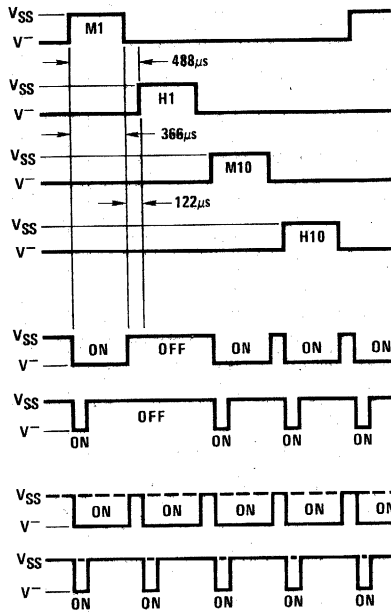
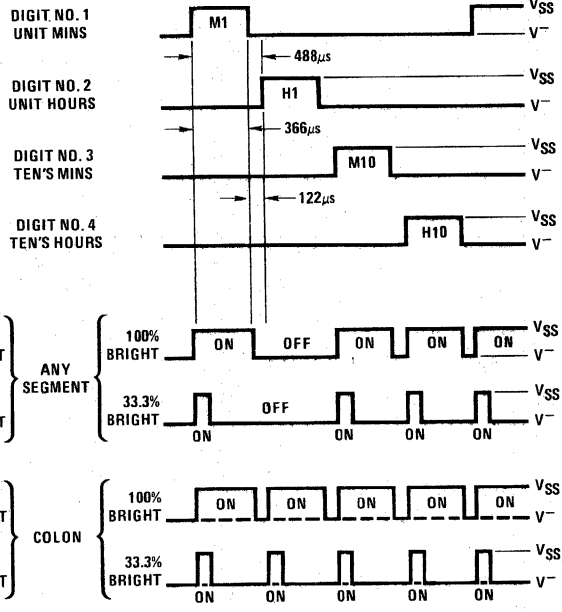
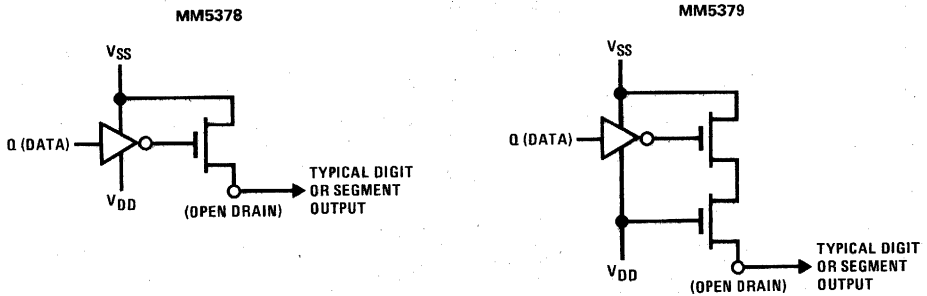
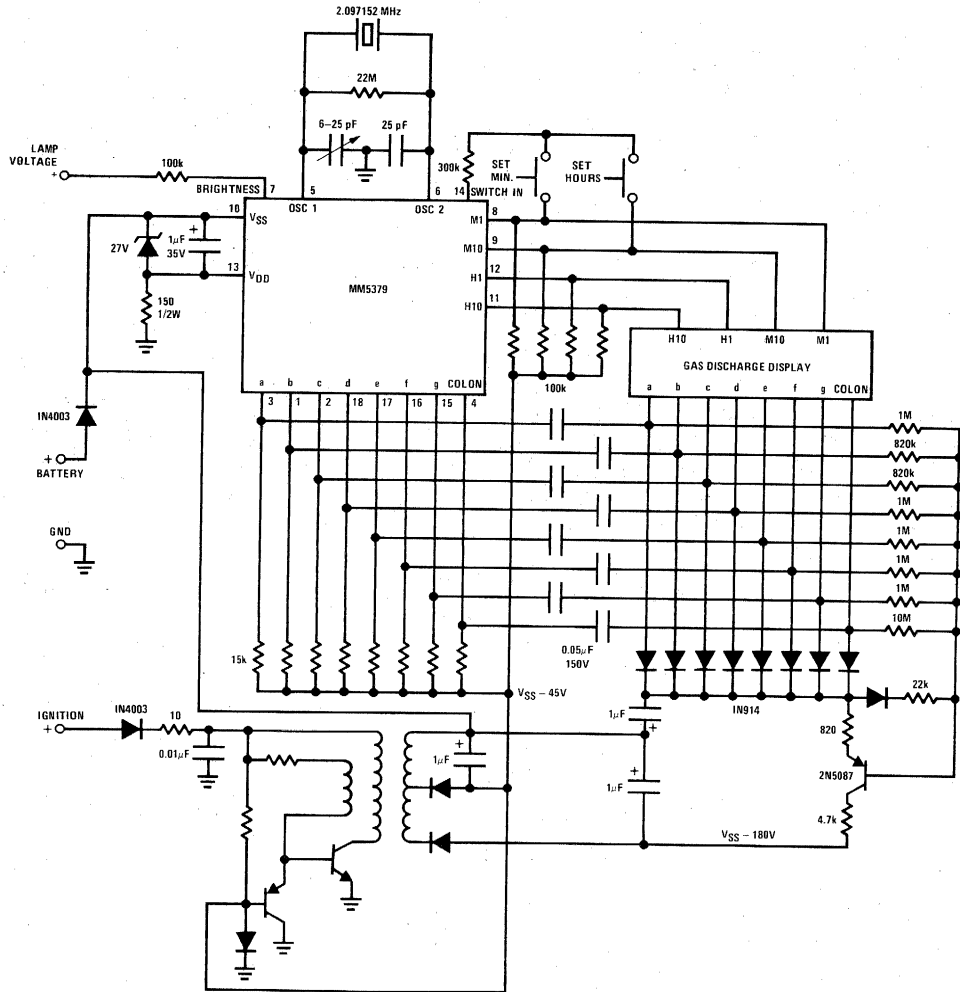

FIGURE 4. MM5379 Output Timing Diagram
FIGURE 5. MM5378 Output Timing Diagram
FIGURE 6. Output Circuits
FIGURE 7. Typical Application for MM5379
voltage(s) for a short time during inter-digit transitions, or (2) avoid physical adjacent inter-digit transitions. The MM5379 auto clock utilizes an interlaced output sequence and inter-digit blanking circuitry to prevent display arcing problems. The digit sequence is: (1) digit no. 4 (unit minutes), (2) digit no. 2 (unit hours), (3) digit no. 3 (ten's of minutes), (4) digit no. 1 (ten's of hours), etc. Blanking intervals are provided to recharge level-translating capacitors located in the display segment drive lines (Figure 6). Both segment data and digit enables are blanked. Figure 4 is a timing diagram which illustrates output timing for the MM5379. Figure 5 is a timing diagram which illustrates output timing for the MM5378.
**Brightness Control:** Since display brightness is a function of cathode segment current, a capability of interrupting this current for a variable percentage of the digit interval results in a brightness control. Depending on the magnitude of the voltage applied, the digit "ON" time will vary from 0% to 100% of its possible period in 8 1/3% increments. This is illustrated in Figures 4 and 5.
**Output Circuits:** All display output drivers, both digit and segment outputs, are open-drain enhancement devices (Figure 6). Thus, all outputs are capable of sourcing currents while external pull-downs are required to sink currents. Figure 7 illustrates method of interfacing these outputs to gas discharge displays.